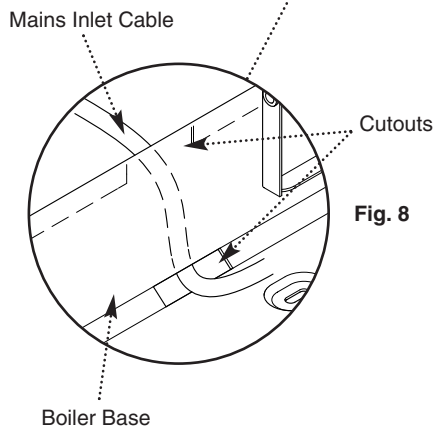

Fig. 8
3. Route the mains inlet cable under the boiler base through the cutouts (Fig. 8).